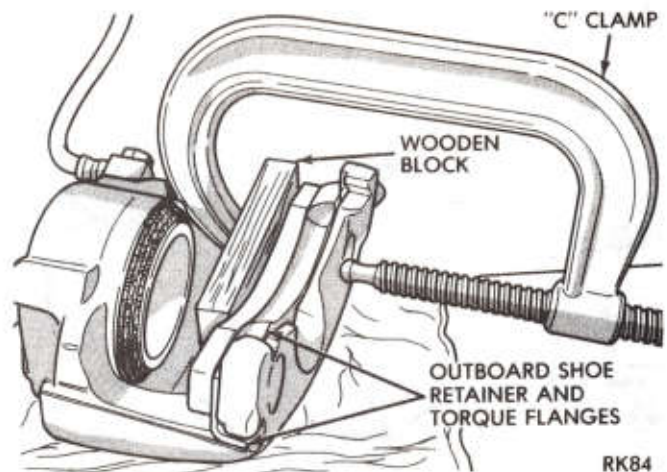

Fig. 9—Pressing Outboard Shoe onto Caliper Arms with "C" Clamp
(2) Position the outer shoe and lining on the caliper. **No free play should exist between shoe retaining flanges and machined surfaces on caliper outboard arms (which might cause shoe rattle). If the shoe cannot be pressed into place by hand, a C-Clamp may be used. If a C-Clamp is used, protect shoe with wooden block as shown in Figure 9.**